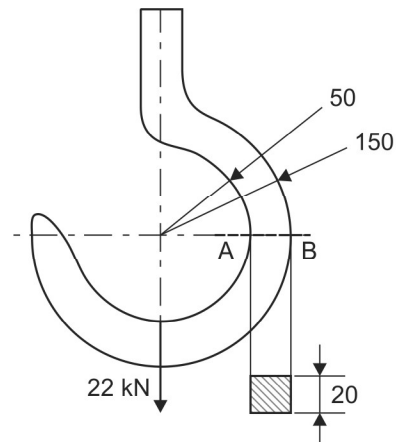

Fig. M1.29
51. Plot a stress distribution diagram about section A-B for the hook shown in Fig. M1.29. **(10 Marks)**